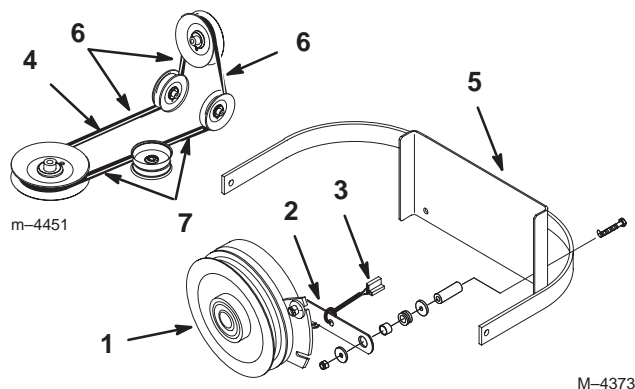

Figure 63
2. Remove the clutch retaining strap from machine frame and unplug clutch terminal from wire harness (Fig. 63).
3. Remove PTO drive belt from rear idler arm and front idler pulley assembly. Remove the PTO drive belt (Fig. 63).
4. Place new drive belt over clutch, around rear idler pulley, installed into rear idler arm assembly, installed into front idler pulley assembly and onto top center pulley (Fig. 63).
Important Check the amount of twist in belt between pulleys. Make sure it is only what is specified in figure 63.
5. Install clutch retaining strap and plug clutch terminal into main wire harness (Fig. 63).